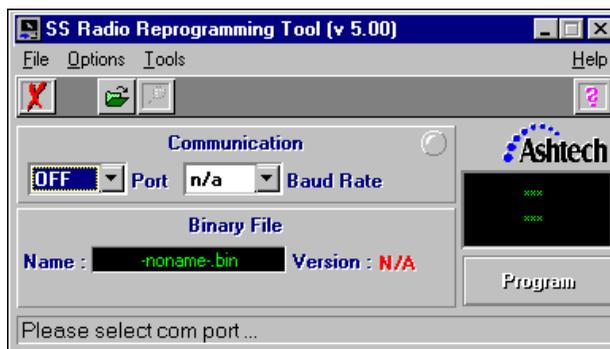

Figure 3.5: SSR Programming Tool
2. Run the **Programmer** software by double clicking on the associated icon. The SSR Programming Tool window will appear as shown in Figure 3.5.